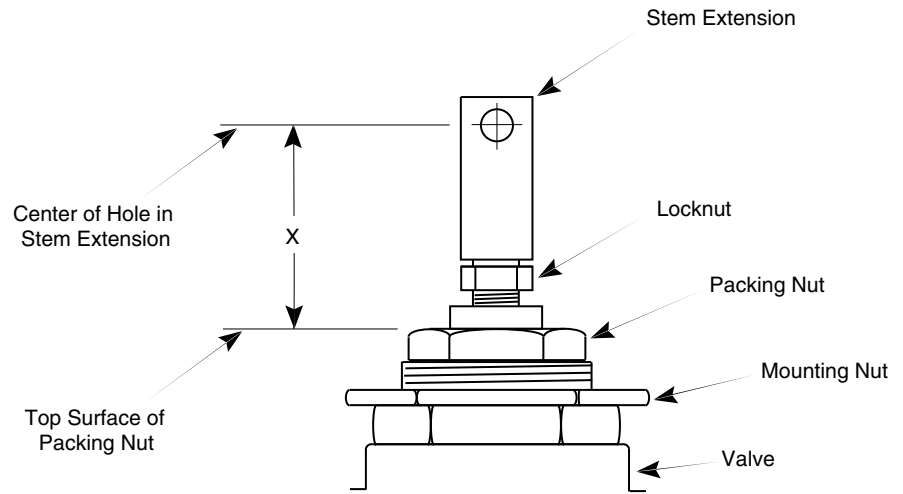

Figure-1 Assembly of AV-401 Linkage Kit onto Valve.
1. Thread the locknut and the stem extension several turns onto the valve stem (Figure-1).
3. Adjust the height of the stem extension as indicated in Table-1. This height (dimension "X") is measured from the top surface of the packing nut to the center of the hole in the stem extension (Figure-1).